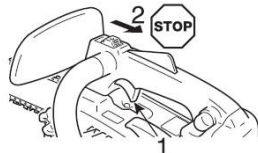

Fig. 8
1. Release the accelerator (Fig. 8- ①) and idle the engine for a few minutes to cool it down.
2. Place the switch (Fig. 8-②) in the "STOP/O" stop position.